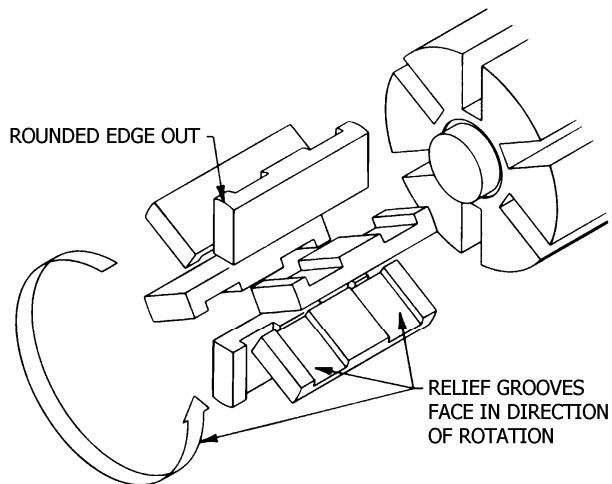

Figure 8 – Vane Replacement
3. Turn the shaft by hand until a vane (14) comes to the top (12 o'clock) position of the rotor. Remove the vane.
4. Install a new vane (14), ensuring that the rounded edge is UP, and the relief grooves are facing towards the direction of rotation. See Figure 8.